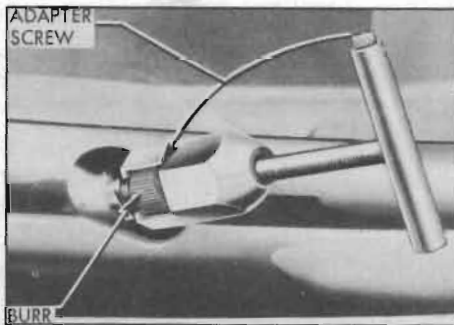

Figure 13-15—Removing Driving Burr from Transmission Shaft
2. Remove adapter screw from handle of Burr Remover and Replacer J 2682 and thread in into the end of transmission shaft, then install the tool so that clutch end of barrel grips the under side of driving burr. Hold the barrel of tool stationary with an open end wrench, turn handle of tool *counterclockwise* until burr is removed. See figure 13-15.